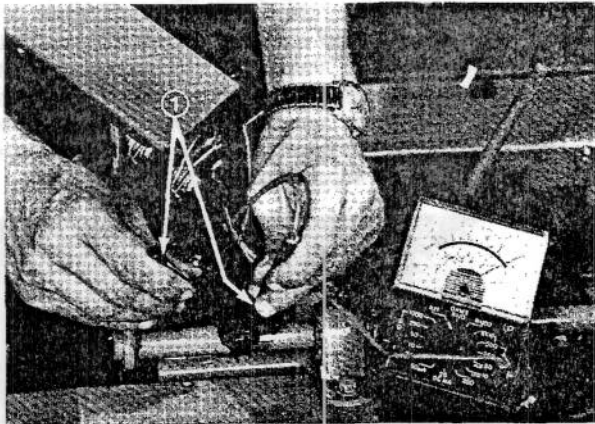

Figure 85
11. Pull PTO switch connectors apart (Fig. 85). Check continuity across the two bottom terminals of the PTO switch (Fig. 85) while the PTO lever is in the disengage position. If there is no continuity, install new PTO switch. Replace the wiring harness if the switch has continuity.